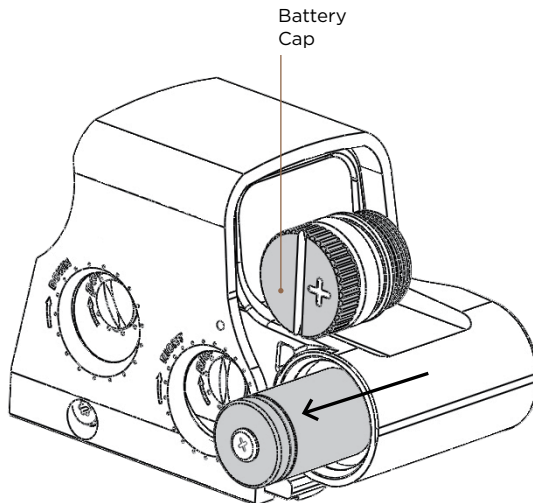

FIGURE 2
- Remove the battery cap by turning counterclockwise until it pulls away from the battery compartment (**FIGURE 2**).